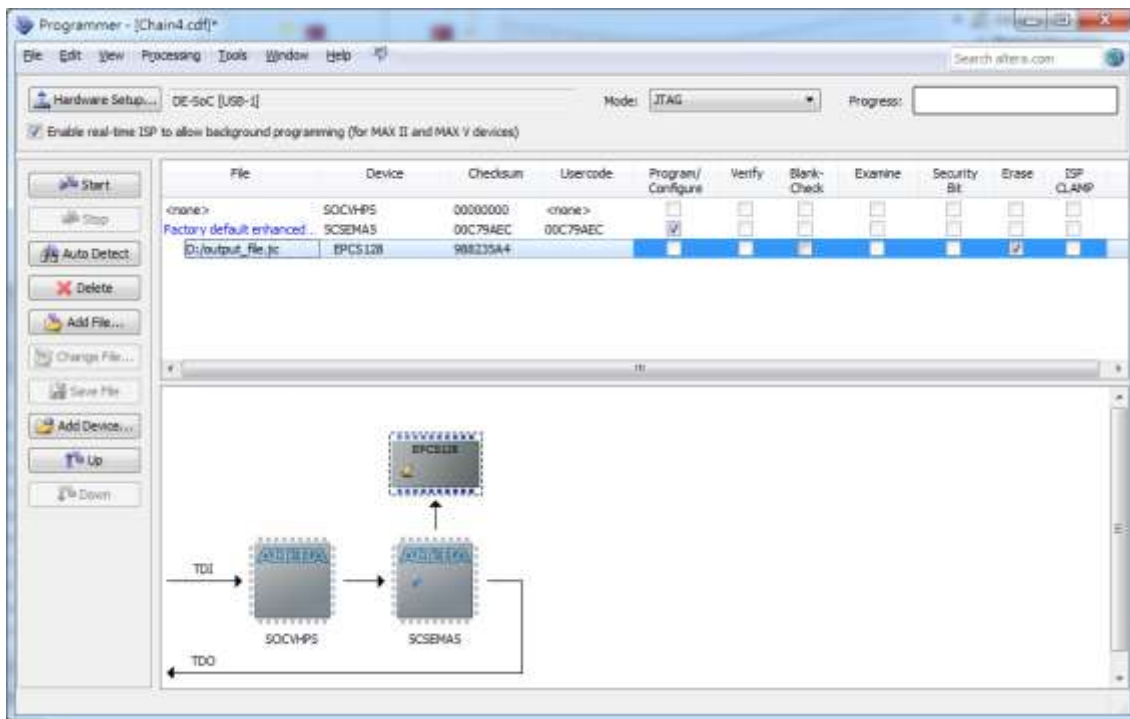

Figure 8-8 Erase the EPCS device in Quartus II Programmer
5. Erase the EPCS device by clicking the corresponding **Erase** box. A factory default SFL image will be loaded, as shown in Figure 8-8.